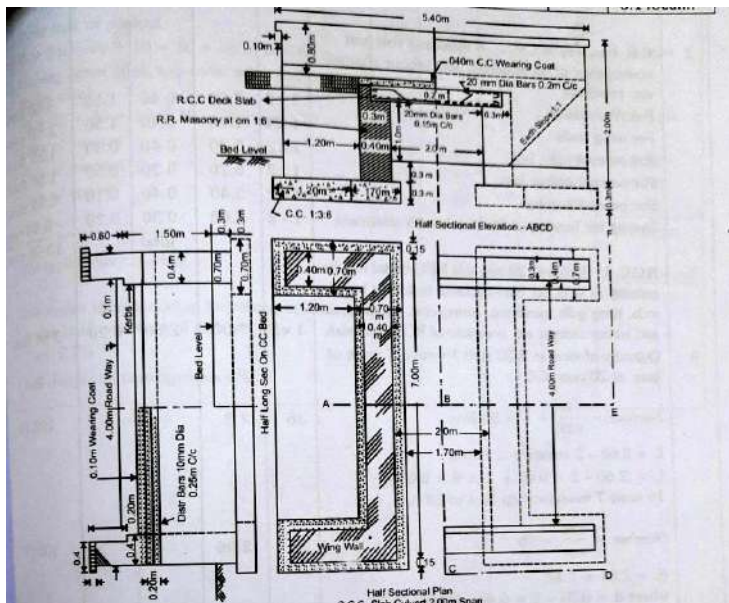

Fig.8
16. For a R.C.C. slab culvert as shown in fig.8, calculate